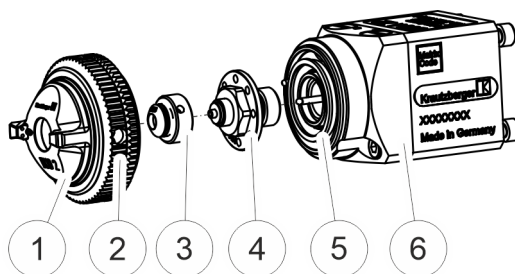

Fig. 17: Removing the nozzles
- 6.** ➤ Loosen the cap nut ( Fig. 17/2) and remove together with the air nozzle ( Fig. 17/1).
- 7.** ➤ Remove the material nozzle ( Fig. 17/3) from the air nozzle.
- 8.** ➤ Unscrew the valve seat screw ( Fig. 17/4) from the head section ( Fig. 17/6) with a wrench (AF 14).
1. If necessary, make sure that the air distributor ring ( Fig. 17/5) is positioned correctly.
Tighten the valve seat screw ( Fig. 17/4) on the head section ( Fig. 17/6) with a wrench (AF 14).
3. Insert the material nozzle ( Fig. 17/3) into the air nozzle.
4. Press the air nozzle ( Fig. 17/1) back into the cap nut ( Fig. 17/2) by applying slight pressure and tighten it at the head section.